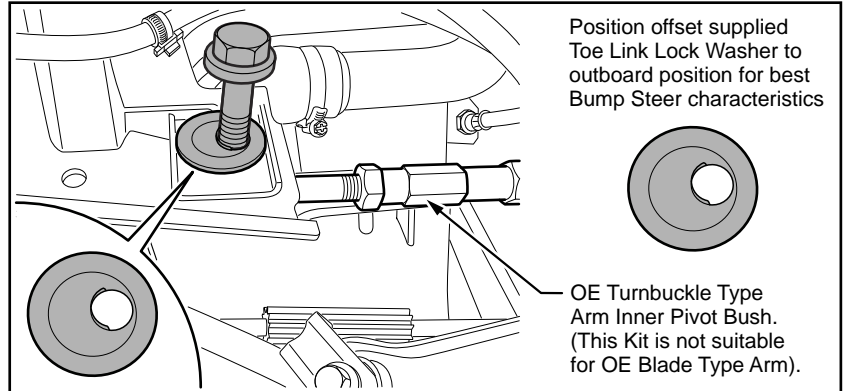
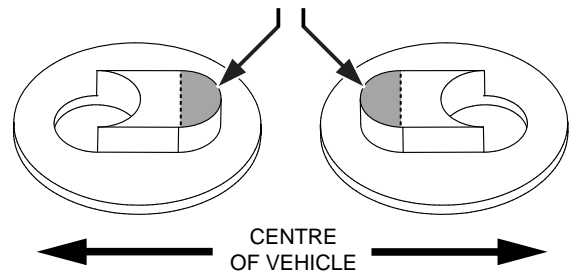

Fig.1
Fig.2
4.(A) Fit supplied eccentric locating lock washers to front and rear chassis elongated hole and refit arm using the OE bolt and nut as per Fig.1
(B) Using suitable hand tools file the supplied locating lock washer (refer to Fig.2) until the washer locates correctly and the bolt and toe arm can be refitted, refer to Fig.1
B. Lower the subframe so as to be able to access the front point of the toe link inner pivot bolt elongated slot as per Fig.1
C. Using suitable tools file the flat end of the slot only until the supplied locking washer and the retaining bolt fit in place as per Fig.1
D. Access the inner pivot point from the rear of the cradle and using a suitable tool file the flat end only until the supplied locking washer and the retaining bolt fit in place as per Fig.1